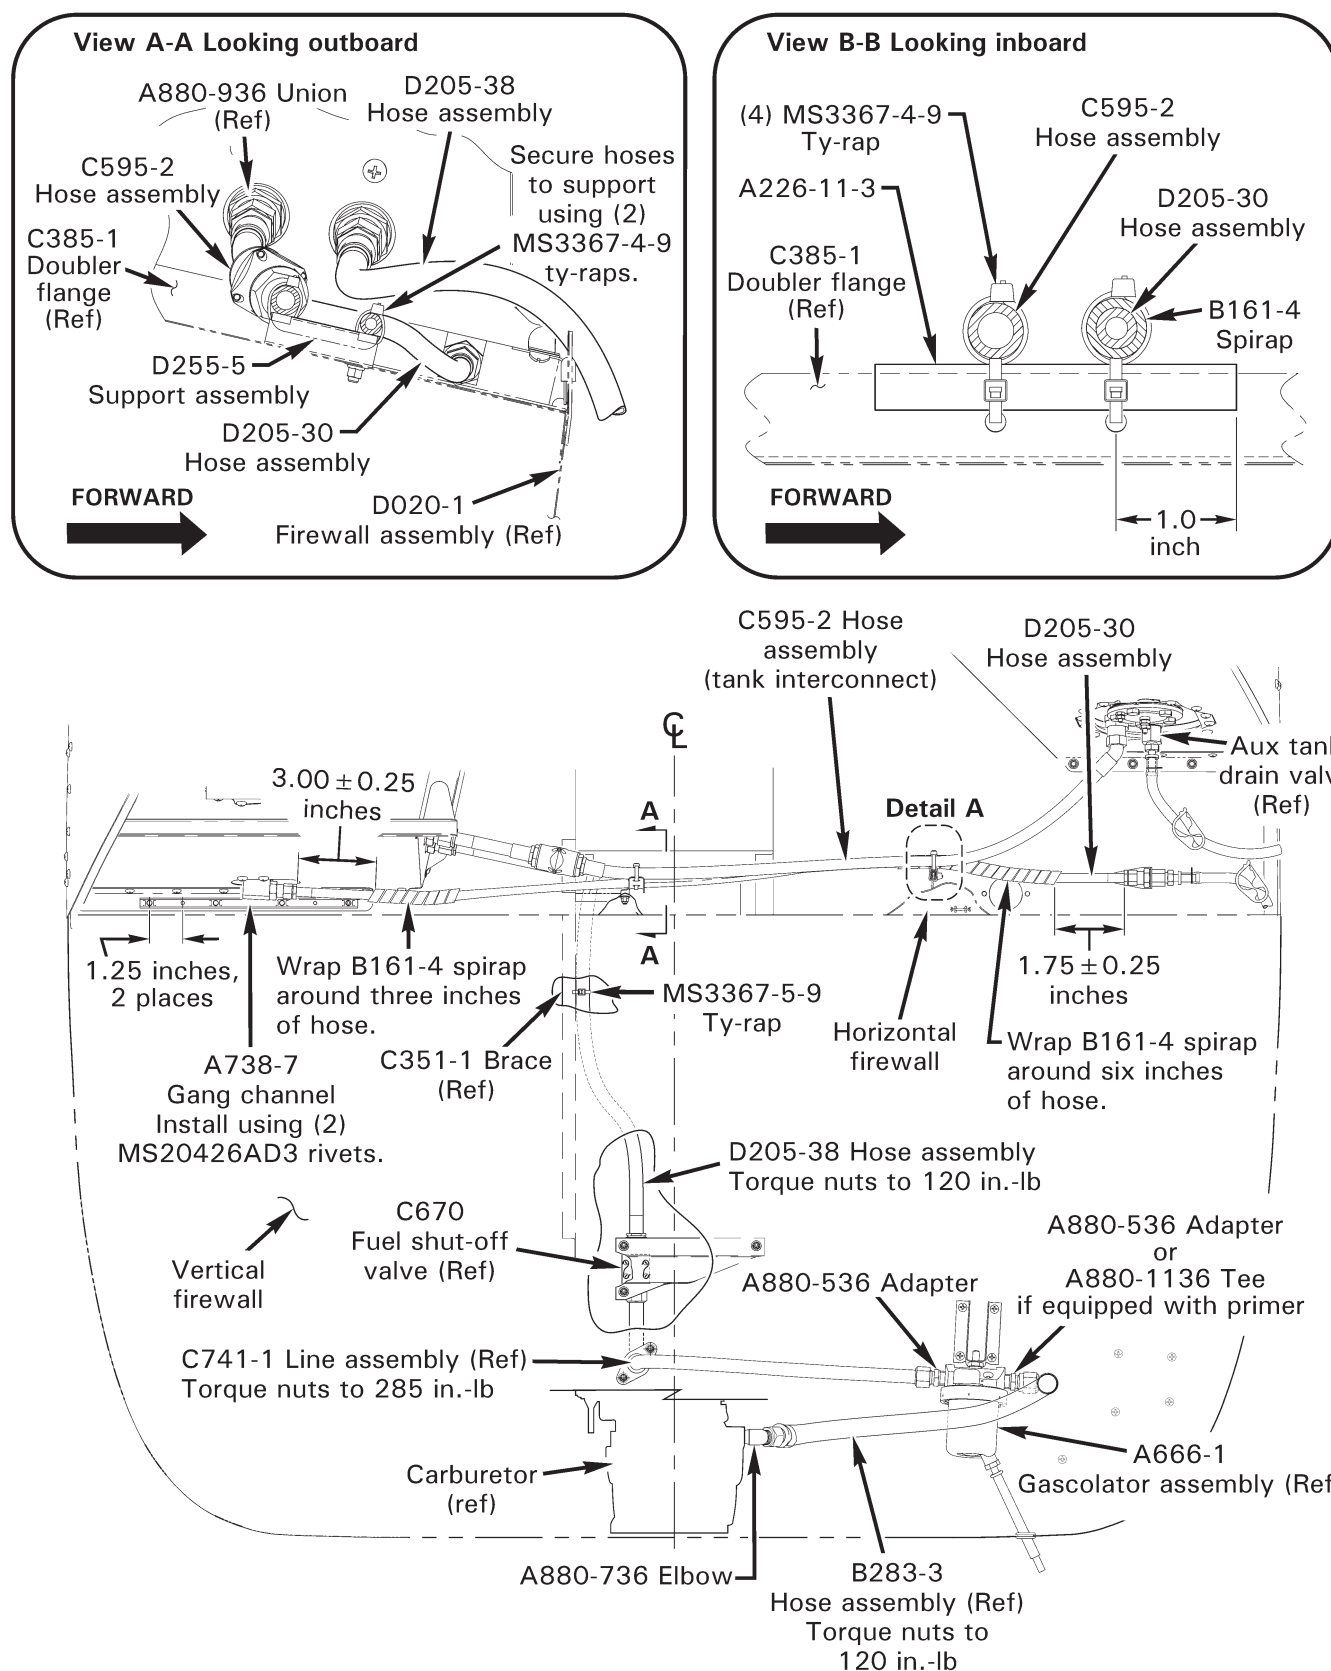

**FIGURE 7**
32. Match-drill 0.170-inch holes in tank aft vertical panel through (3) holes in intermediate bulkhead. Match-drill 0.250-inch holes in panel through upper frame tab holes; temporarily install bolts.
34. Refer to Figure 7, Detail A. Mark horizontal centerline of new D043-5 aux tank channel doubler.
35. Position aux tank in helicopter. Align marked line with center of upper frame attachment hole as shown in Figure 7, Detail A; align fuel tank exterior skin aft edge with aft edge of latched D042-4 door assembly per Detail B. Secure tank position by clamping channel to frame at attachment hole.
39. Transfer longitudinal lines and recorded distances from exterior skin to tank forward edge, and lay out (3) drill marks. Using a drill stop, drill 0.170-inch holes through tank skin.
41. Refer to Figure 7. Open D042-4 door. Using a drill stop, match-drill 0.170-inch holes in C259-2 bulkhead panel through (4) holes in D253-3 angle. Close and latch door.
42. Install D042-5 door assembly and (2) aft screws securing door to intermediate bulkhead, and latch door. Adjust door position for no more than 0.050-inch gap between door forward edge and tank skin aft edge; simultaneously adjust door vertically to match fuel tank contour. Lay out hole location on C245-8 clip and verify drill hole on clip will have minimum 0.12-inch edge distance. Match-drill 0.170-inch hole in clip through door; install and secure screw.
43. Match-drill 0.170-inch holes in tank channel through (3) holes in D042-5 door assembly.
48. Install (7) MS21069L08 nutplates on main and aux tank flanges as noted in Figure 7.